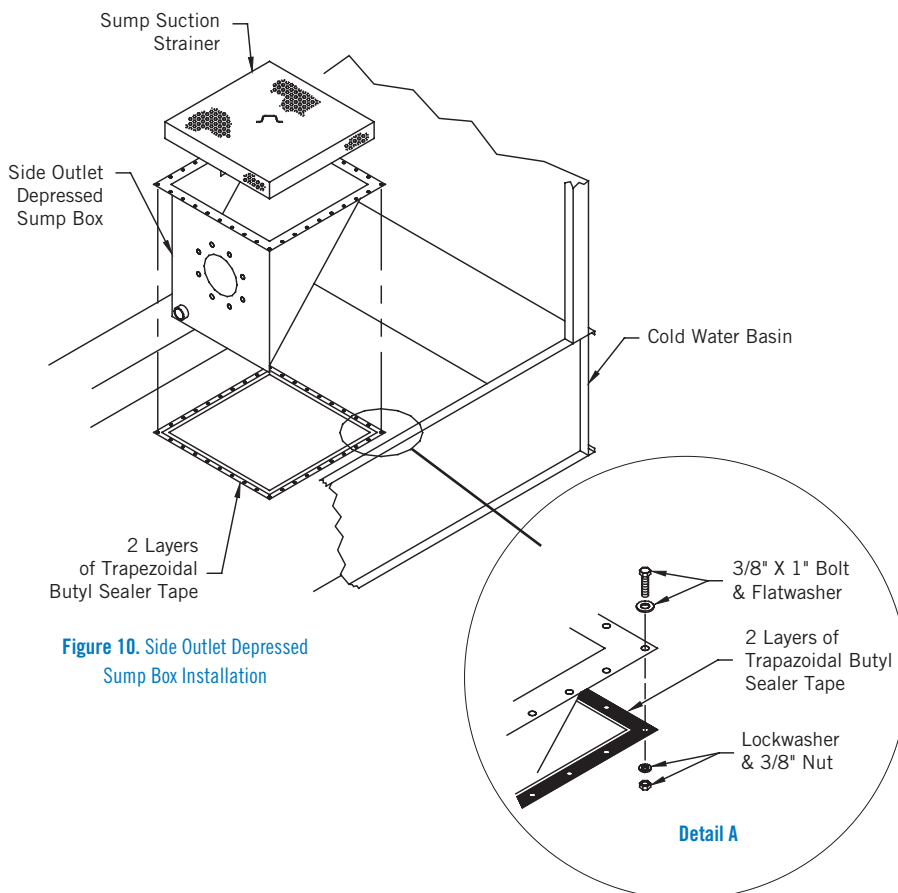

Figure 10. Side Outlet Depressed Sump Box Installation
2. Apply a layer of trapezoidal butyl sealer tape (BAC part #554009) around the opening in the basin over the centerline of the holes. Do not stretch the sealer tape too thinly or overlap at the corners. When it is necessary to splice the sealer tape, be sure to press the two ends together to form a smooth continuous strip. Apply a second layer of trapezoidal butyl sealer tape (BAC part #554009) over the first layer following the same procedure. Refer to **Figure 10**. The sealer tape needs to be positioned between the sump box and the inside basin bottom.
3. Insert the sump box assembly into the opening in the cold water basin and attach it to the basin with 3/8" x 1" bolts, flat washers, lock washers, and nuts as shown in **Figure 10, Detail A**.